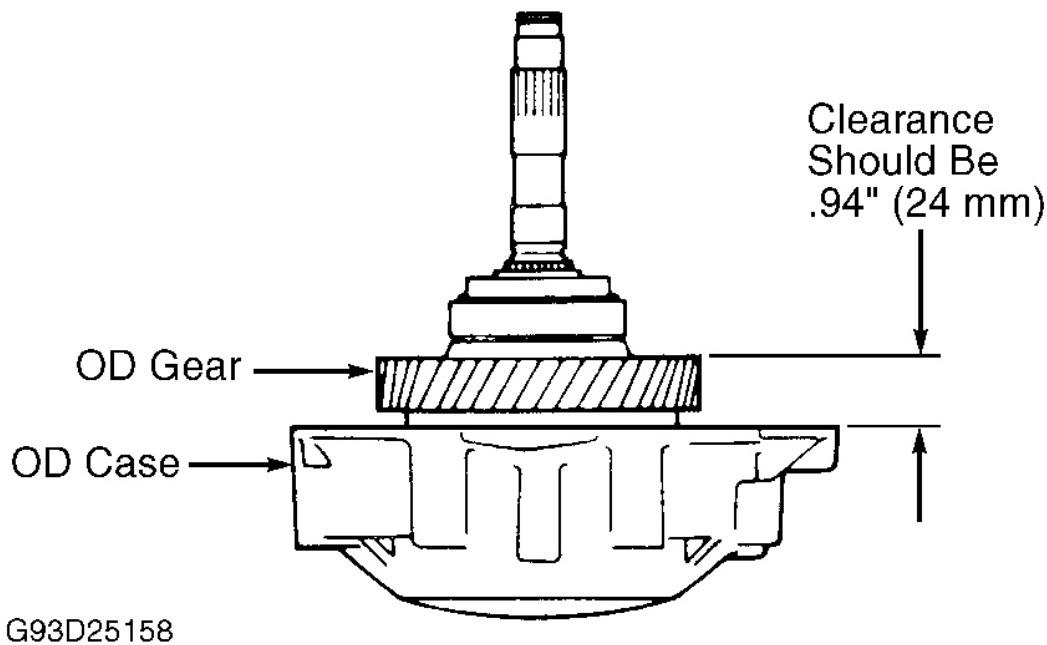

Fig. 38: Checking Installed Height Between OD Gear & Case
2. Install following parts in order: disc, plate, plate, disc, plate. Install cushion plate with rounded end upward. Install piston return spring assembly. Install snap ring in case. Ensure end gap of snap ring is not aligned with cutouts. While turning the overdrive gear clockwise, install overdrive gear to case. If overdrive gear is properly installed to case, height will be .94" (24.0 mm). See **Fig. 38**.
7. Install snap ring. Ensure snap ring end gap is not aligned with cutouts. Turn OD gear clockwise and install OD gear in case. If OD gear is properly installed, clearance between OD gear and case will be .94" (24.0 mm). See **Fig. 38**. Align pin of OD brake drum in hole of case and install OD brake drum.